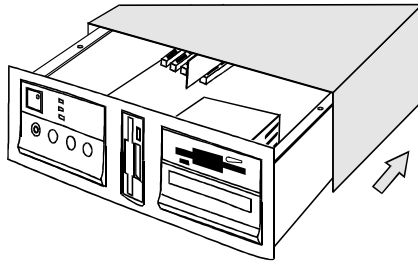

Figure 2-4: Removing the computer cover of your system.
3. Remove the cover from your system as illustrated in Figure 2-4.